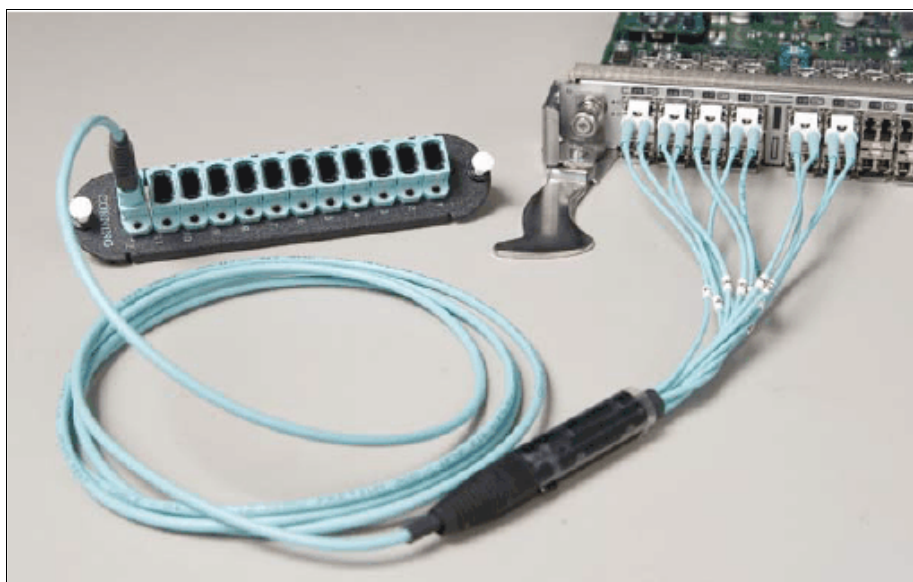

Figure 2-2 LC-MPO fan-out cable consolidates six duplex LC ports into one MPO connection
Using fiber cable assemblies that have a single connector at one end of the cable and multiple duplex breakout cables at the other end is an alternative to alleviate cable management. Multifiber Push-On (MPO) cable assemblies are designed to do just that. The idea is to pre-connect the high-density, high port-count Lucent Connector (LC) equipment with the LC-MPO fan-out cable (shown in Figure 2-2) to dedicated MPO modules within a dedicated patch panel. Once fully cabled, this patch panel functions as if it were “remote” ports for the equipment. These dedicated patch panels ideally should be located above the equipment whose cabling they handle for easier access to overhead cabling. Using this strategy drastically reduces equipment cabling clutter and improves cable management.
As an example, the MPO module shown in Figure 2-2 is housed into a modular patch panel installed above a Fibre Channel director switch at the EDA. MPO trunk cables are used to link this patch panel to another modular patch panel located at the HDA. The patch panel at the HDA converts the MPO interface back to the LC interfaces using MPO-to-LC cassettes. MPO trunk cables can accommodate up to 72 individual fibers in one assembly, providing 36 duplex connections.